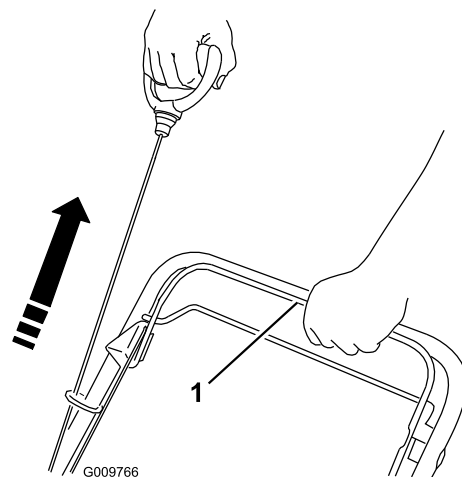

Figure 17
3. Pull the recoil starter until you feel resistance, then pull it sharply (Figure 17).